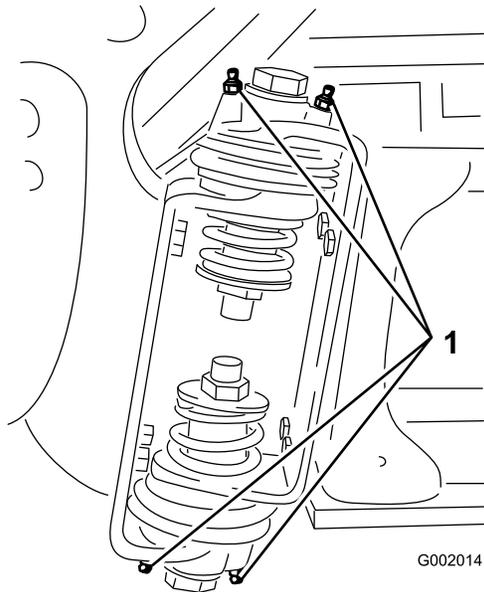

Figure 39
2. Pump grease into the bearing or bushing at each fitting (Figure 39).